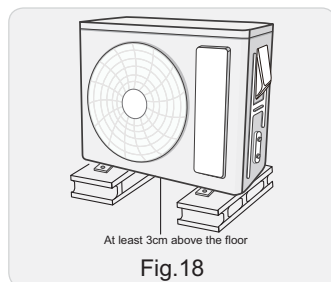

Fig.18
- (1) Take sufficient protective measures when installing the outdoor unit.
- (2) Make sure the support can withstand at least four times the unit weight.
- (3) The outdoor unit should be installed at least 3cm above the floor in order to install drain joint.(As show in Fig.18)